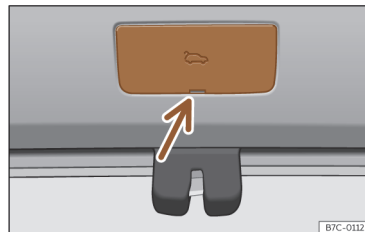

Fig. 58 Luggage compartment: access to manual release.
- Remove the cover using the key blade as a lever >>> Fig. 58.